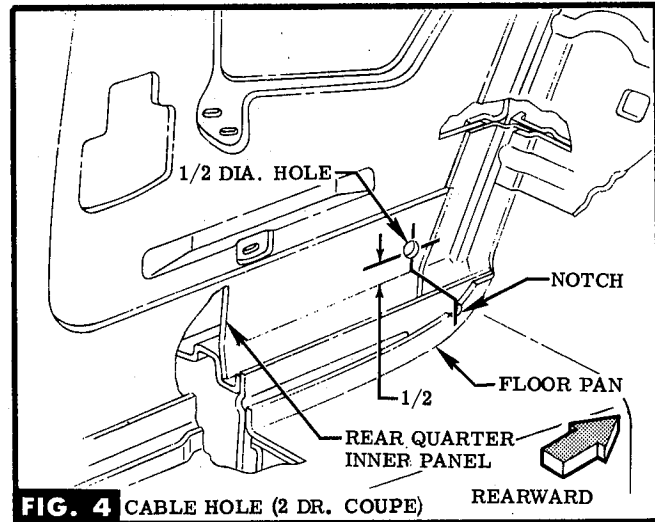

FIG. 4 CABLE HOLE (2 DR. COUPE)
STEP 4 (2 DR. COUPE) REMOVE REAR SEAT CUSHION & R. H. DOOR SILL PLATE. LOCATE, CENTERPUNCH & DRILL HOLE IN R. H. REAR INNER PANEL. SEE FIG. 4.